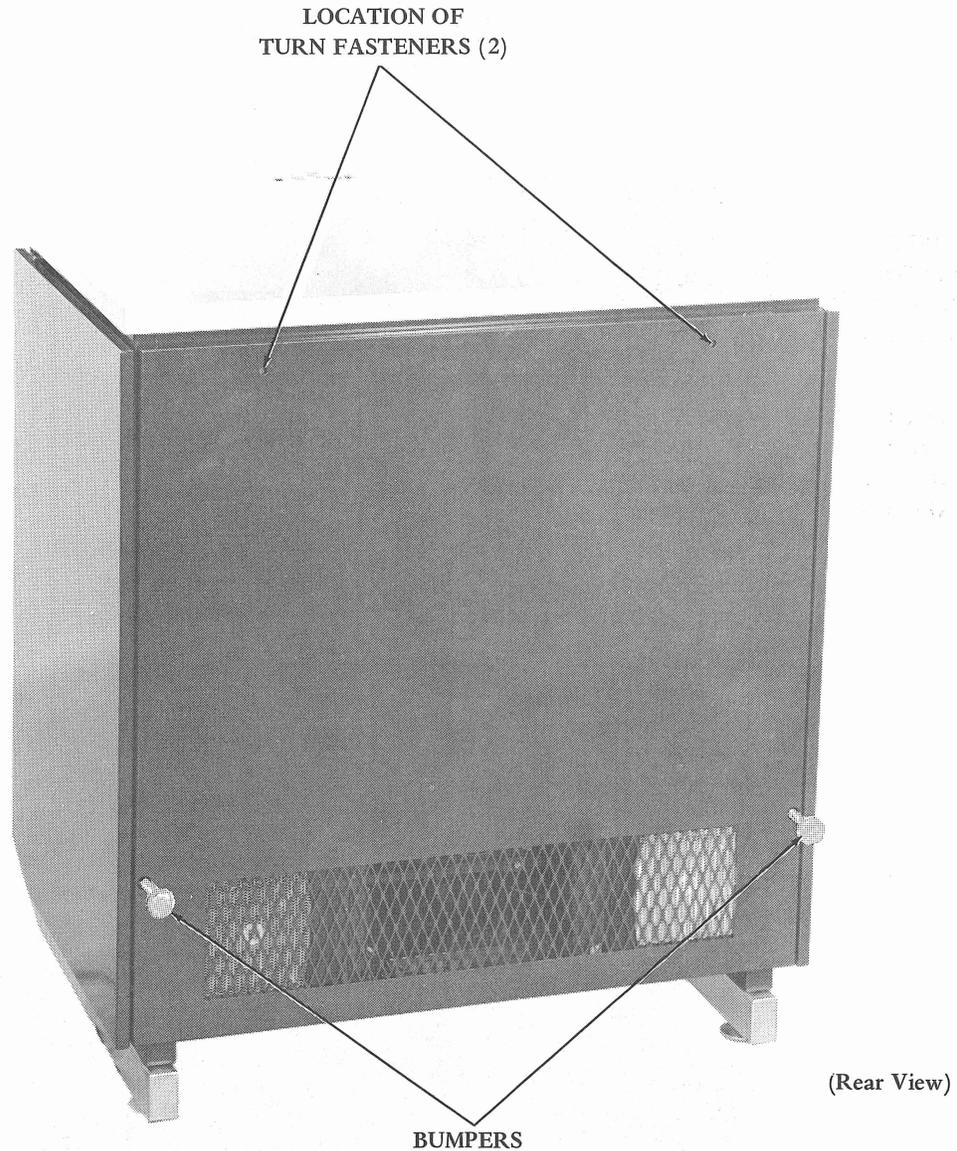

Figure 1 - Buffer Set
- (a) Loosen the TP330306 bumpers from the rear panel (Figure 1). Using a screwdriver, turn the two TP333880 1/4-turn fasteners counterclockwise. The rear panel can now be removed from the buffer unit.